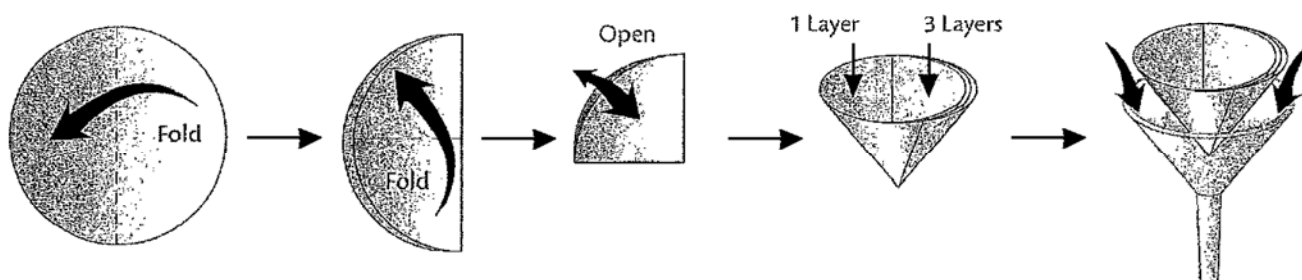

Figure 5 *Folding filter paper.*
16. Fold a piece of filter paper as shown in Figure 5.